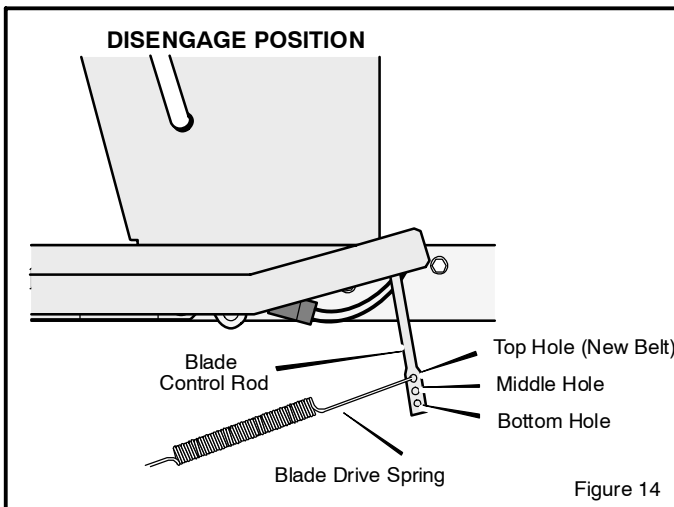

Figure 14
5. Disconnect the **blade drive spring** from the **blade control rod**. Move the **blade drive spring** to the *middle hole* (Figure 14). This will increase the tension on the **mower drive belt**.
12. If you replace the **mower drive belt**, move the **blade drive spring** to the *top hole* (Figure 14).